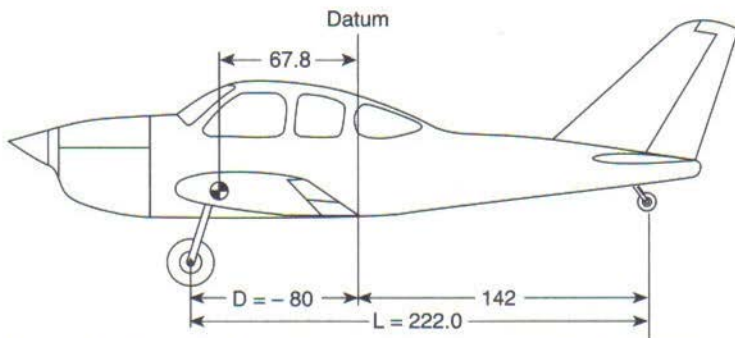

Figure 16.5. The datum is the trailing edge of the wing at the wing root.
In Figure 16.5, the datum is at the trailing edge of the wing at the wing root. The distance (D) between the main-wheel weighing points and the datum is 80 inches. The weight of the tail wheel (R) is 67 pounds, the distance (L) between the main wheel and the tail-wheel weighing points is 222.0 inches, and the total weight (W) is 1,218 pounds.